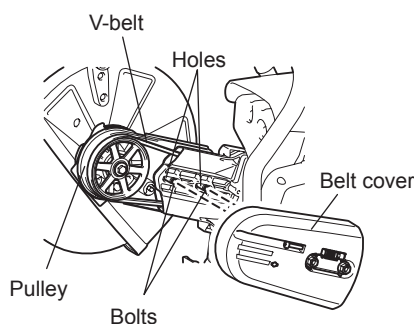

Fig. 6
- (6) Turn over the removed cutting attachment, pass bolt through hole, and remount in direction B. Remount the V-belt to the pulley. (Fig. 6)